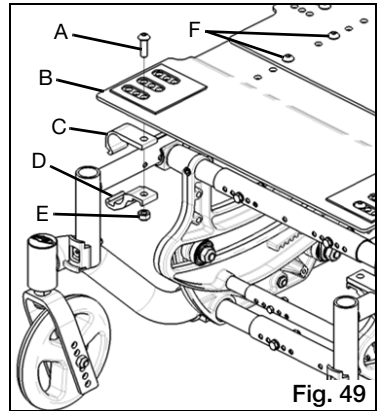

Fig. 49
- Using a 5mm Allen wrench, remove button head screws (Fig. 49:A) from corners of seat pan.
- Remove seat pan assembly (Fig. 49:B), seat pan brackets (Fig. 49:C), seat pan clamps (Fig. 49:D) and nuts (Fig. 49:E) from seat tubes.
- Slide one seat pan bracket (Fig. 49:C) onto seat tube and link seat pan clamp (Fig. 49:D) onto bracket, wrapping around seat tube. Hold nut (Fig. 49:E) in slot of clamp as shown and thread button head screw (Fig. 49:A) through seat pan into clamp. Do not tighten. Repeat for all four corners of seat pan.
- Using a 5mm Allen wrench and a 13mm wrench, remove all four button head screws (Fig. 49:F) from center area of seat pan.
- With 5mm Allen wrench, loosen all four button head screws (Fig. 49:A) from seat pan clamps (Fig. 49:C).
- Reinstall and tighten button head screws (Fig. 49:F) with nuts.
- Reposition seat pan on seat frame as necessary and tighten button head screws (Fig. 49:A) in clamps.